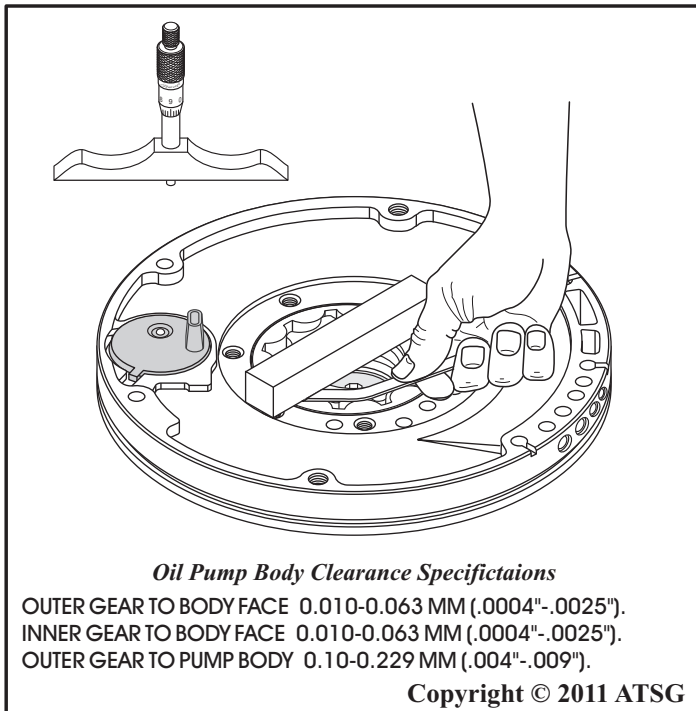

Figure 104
9. Check the clearance between the inner gerotor and outer gerotor to oil pump body face, using a straight edge and feeler gage, as shown in Figure 104, or a depth micrometer.
10. Clearances are shown in Figure 104.